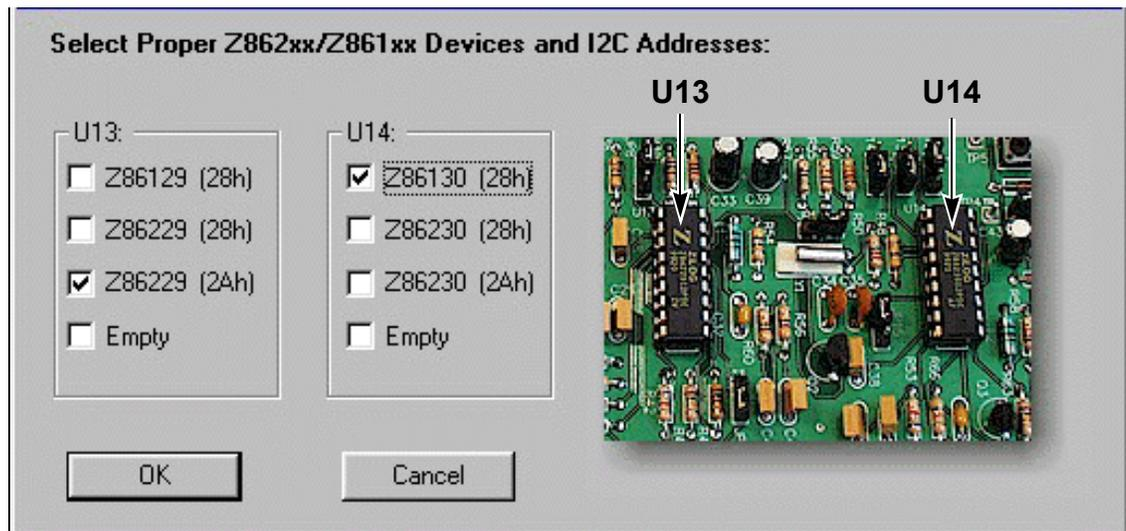

Figure 1. Device Selection Screen
- Figure 1. Device Selection Screen 2
- The Z86229/230 board design is a 2-chip design so the user can evaluate the ZiLOG Line 21 Decoders in any of the following combinations (see Figure 1):